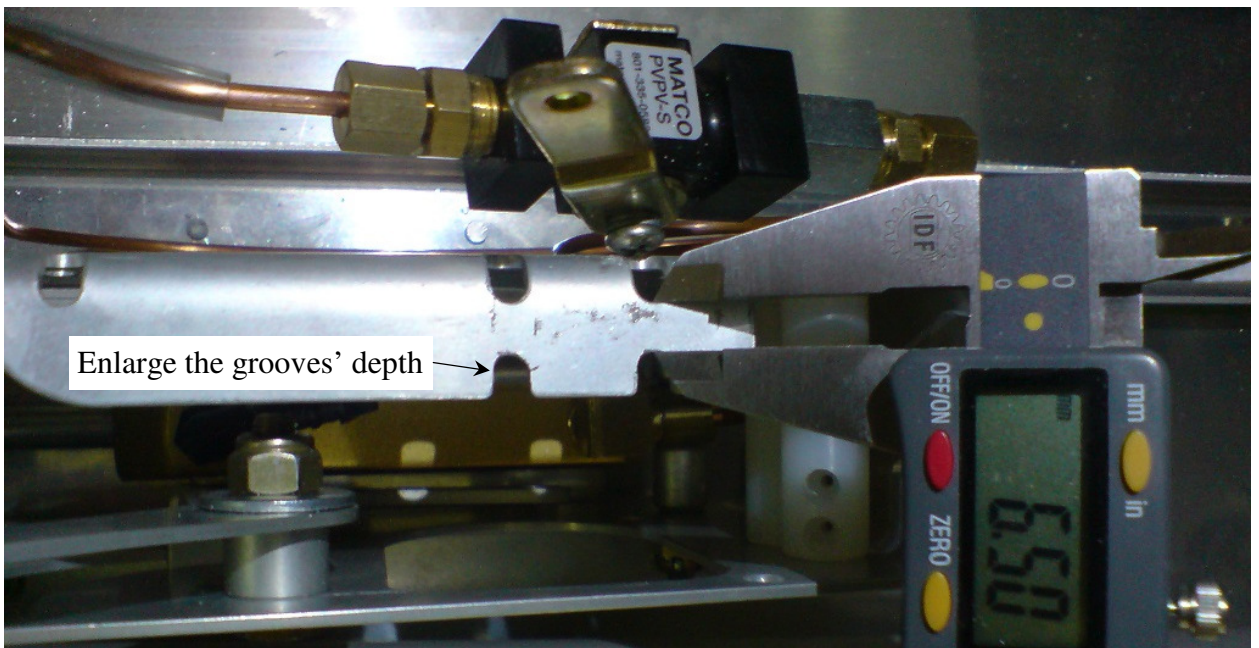

Fig. 2
6. Enlarge the depth of the grooves in the bracket to reduce the distance between opposite grooves to 6.5 mm (see fig. 2).